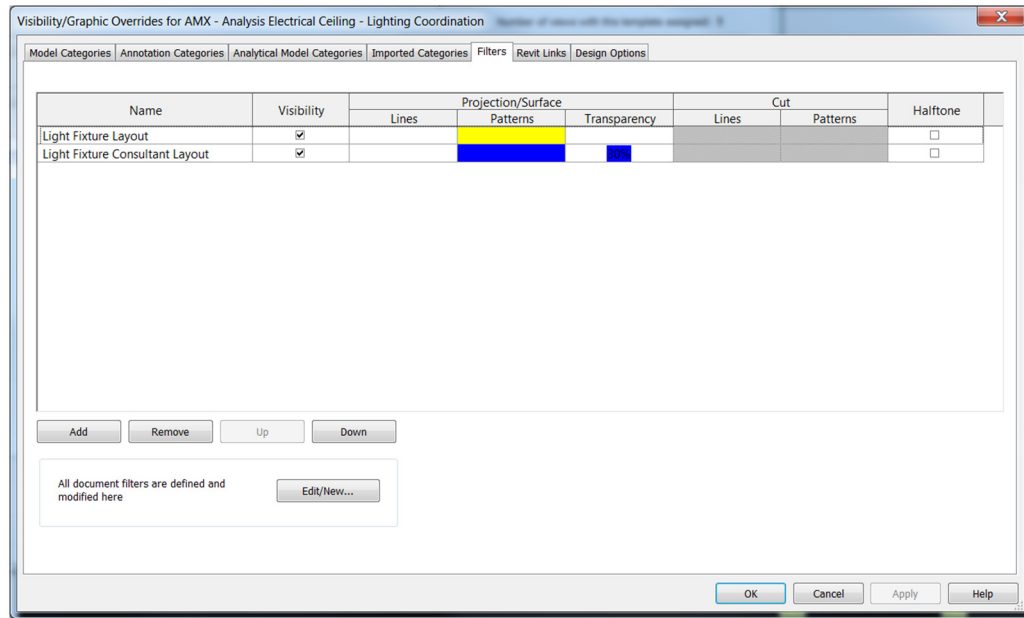

Figure 4.1
- c. Set-up your filters in your view templates. In figure 4.1 below, we created 2 filters. The first one for the architects/lighting designer's layout, and the other one for our light fixture connector. We filtered our light fixture connector simply by family name, changed our projection patterns, and modified the transparency on either one. On the model categories tab, we also turned off the visibility of all models except for the light fixtures.